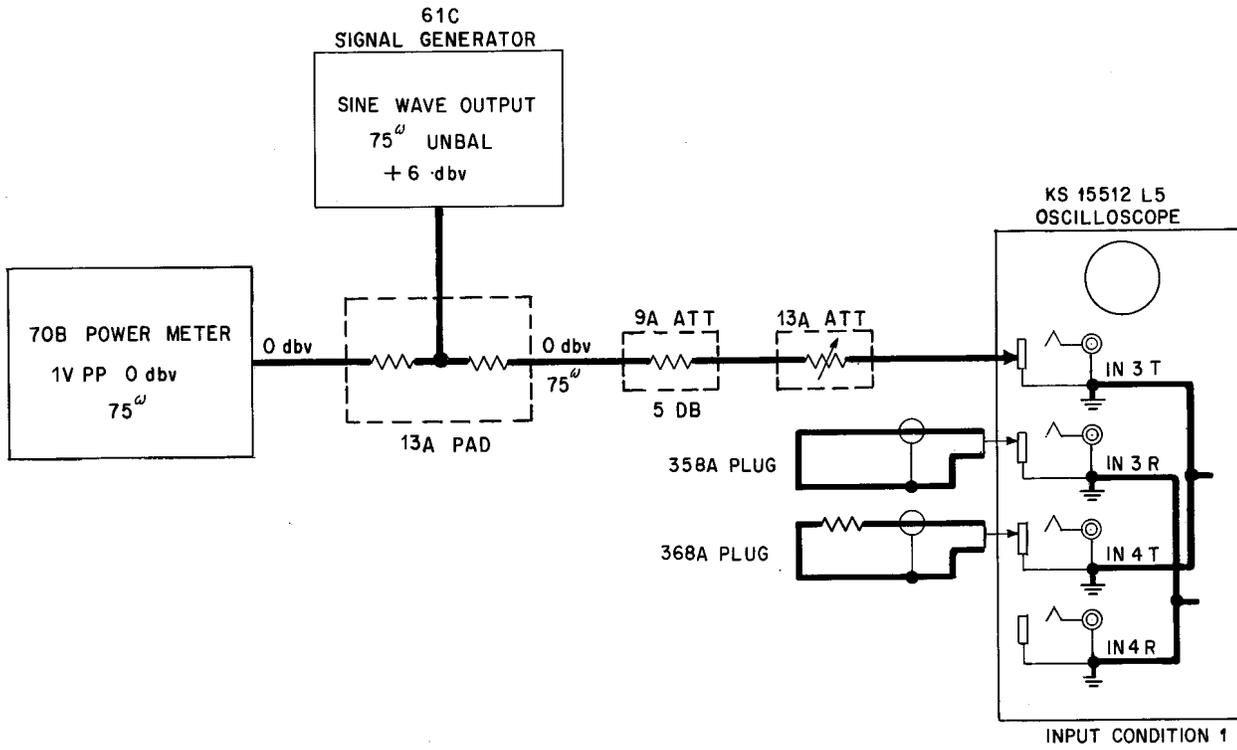

Fig. 6 – Vertical Amplifier Alignment
- (a) Set up the equipment as illustrated in Fig. 6.
(5) Rearrange the test equipment to conform with the arrangement illustrated in Fig. 6. Set the oscilloscope for input condition 1 (Paragraph 1.07). Adjust the signal generator for a 1-volt peak-to-peak, 100 kc sine-wave signal with a 0 dbv level as read on the power meter. Set the V GAIN control maximum clockwise and vary the 13A attenuator (if necessary, also readjust the V GAIN control) for a 2-inch (40 divisions on graph paper) deflection on the scope. Without readjusting the V GAIN control or the attenuator, maintain the reference output of the generator to measure the gain-frequency response of the vertical amplifier over the range from 100 kc to 10 mc which should fall within the limits specified below where values in parentheses indicate differences from 40 divisions expressed in db (see table on page 11).